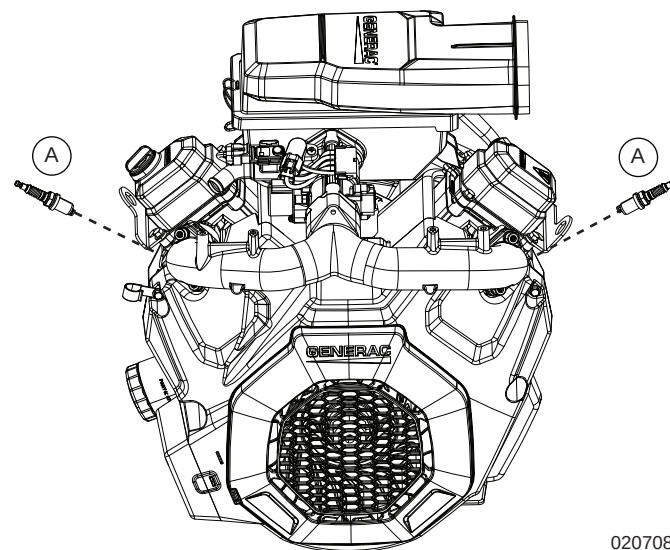

Figure 6-3. Remove Spark Plugs
1. See Figure 6-3. Remove spark plug (A) from each cylinder head.